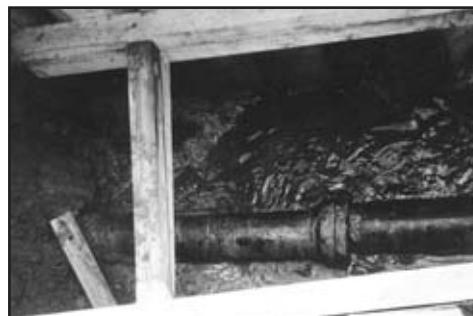

Figure 3.
- 3) Cast Iron Pipe-used in all applications except telephone. Cast iron fractures well, but requires special lead equipment to protect the winch rope from possible damage. Bell and spigot type joints require a blade-type nose extension to help crack the large cross section of material contained in these joints. Product pipe of at least SDR 17 rating should be used to prevent sharp particles from damaging the new installation (Figure 3). Ductile Iron and some stainless steel repair clamps may resist bursting and require removal prior to or during the burst.